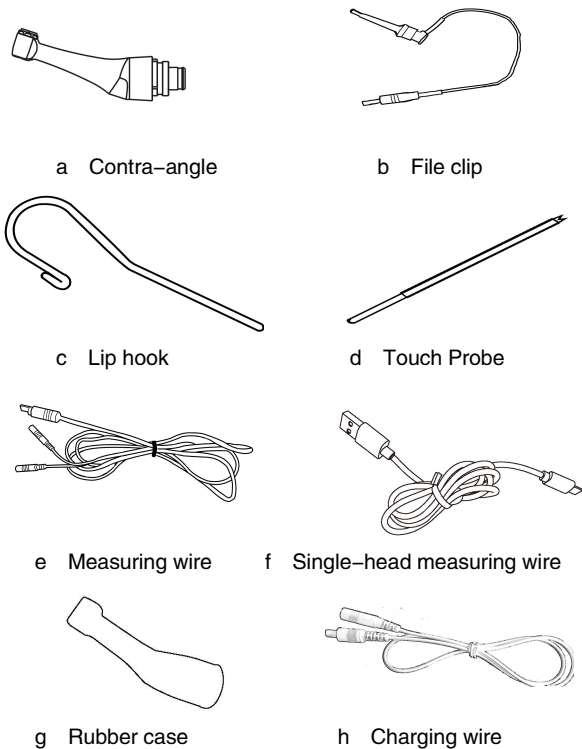

Fig. 1.2 The figure of the main accessories
1.6.2 The figures of the main accessories. (Fig. 1.2)